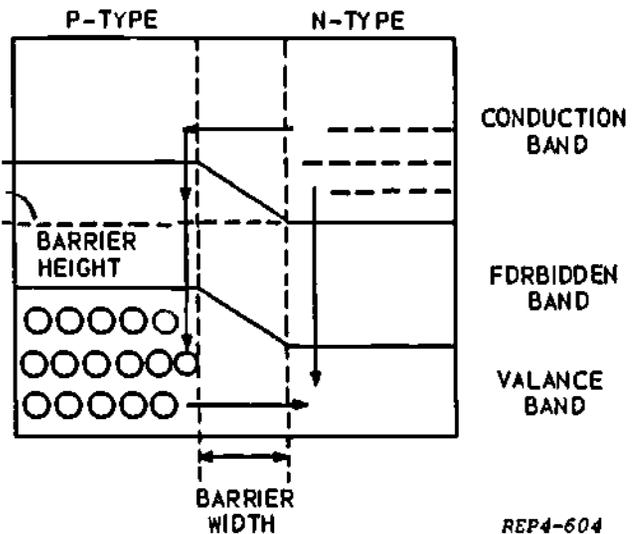

Figure 29-3. Energy Level Diagram of Junction Barrier Formation
17. Figure 29-3 represents a PN junction diode as the junction barrier is being formed. Select the statement which describes junction recombination.
18. Refer to figure 29-3. Barrier width is the _____ distance across the junction and depends on the amount of doping. Barrier height can be measured in _____.